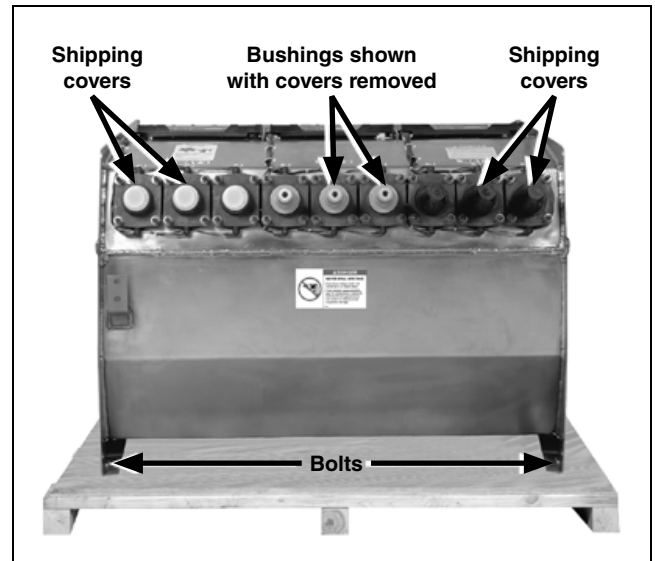

Figure 108. The tank is bolted to skid in four places for shipment (manual unit shown for illustration purposes).
- STEP 2.** Unbolt the tank from the skid, remove the tank from its crate, and lift the gear into place, observing the precautions given in the “Handling” section on page 8. See Figure 2 on page 8 and Figure 108.